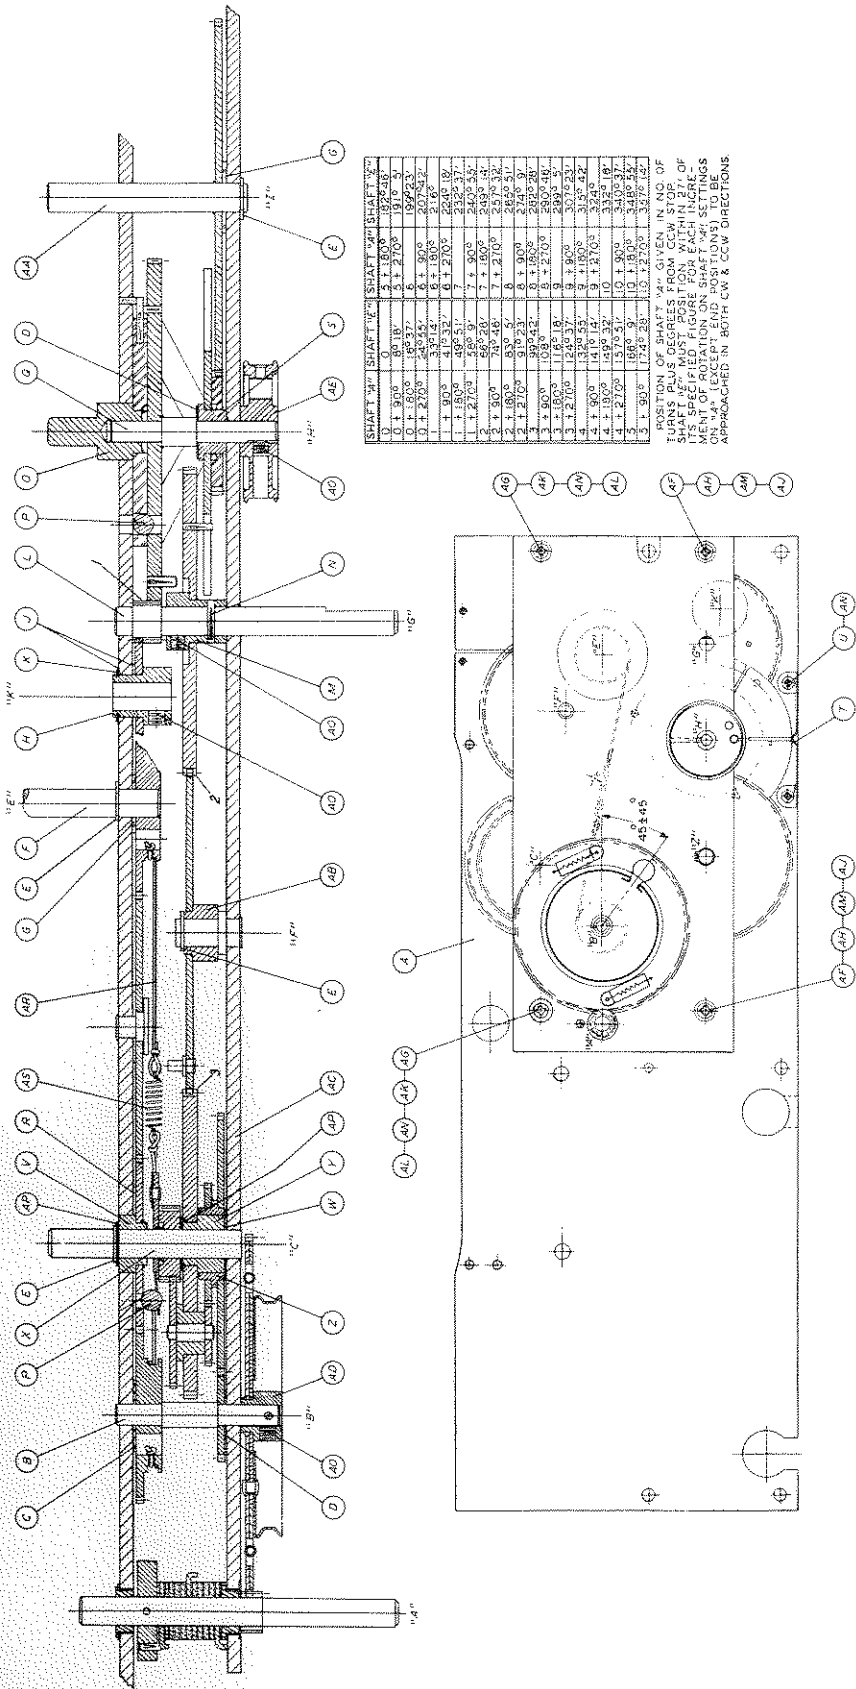

Figure 5-4. 51J-3 Dial and Bandswitch Gear Box
(1) Turn shaft G (BAND CHANGE) clockwise to the stop below band 1. Turn shaft A counterclockwise to the stop.
(2) Scribe a mark across the 85-tooth spider gear that carries the planetary gears, and across the 90-tooth stop-pin gear, using the top of the front gear panel as a guide.
(3) Scribe a radial mark, precisely under the Geneva wheel detent, on the 144-tooth gear that has two stop pins attached.
(4) Using the circumference of the Geneva wheel as a guide, scribe a mark on the 85-tooth gear that drives the Geneva wheel.
(5) Scribe a mark through the edge of the small dial cord pulley and the front gear panel.
(6) Remove pin from hub of large dial cord pulley.
(7) Remove large dial cord pulley and gear.
(8) Remove small dial cord pulley.
(9) Remove retaining ring from shaft I (shown as shaft Z in the front view of gear plate in figure 5-4).
(10) Using a pair of right angle TRUARC pliers or two bent (right angle) scribes, remove retaining ring from shaft F.
(11) Measure and record the length of loading spring using a pair of dividers.
(1) Shaft G should now be against the clockwise stop, and should detent when turned counterclockwise approximately 45° . The ball on shaft C will now detent shaft G every 180° .
(2) When shaft G is turned counterclockwise $7\frac{1}{2}$ revolutions, or 15 detent positions from the first detent position, the pin in the 144-tooth gear on shaft H (figure 5-4), and the radial pin on the overtravel disc rotate clockwise until the radial pin just touches or is about to touch the pin in the rear gear panel. Further rotation of shaft G causes the pin in the gear to leave the radial pin that was stopped by the pin in the rear gear panel. Thus the overtravel coupler output shaft, which drives r-f switches S101 through S107 (figure 4-2), rotates 300° for the first 16 detent positions of shaft G and remains at that setting for further counterclockwise rotation of shaft G.
(3) Shaft G should rotate 14 more detent positions or 7 revolutions from the sixteenth detent position, and should hit the counterclockwise stop approximately 45° past the thirtieth detent position. If the stop pins intersect before this, adjust them by changing phase relations of the gears at points 1, 2, and 3, shown in figure 5-4. Before deciding to change the relative positions of these gears, double check the conditions in steps (1), (2) and (3). If instructions in paragraphs 5.6.2. and 5.6.3. were followed precisely, operation of the BAND CHANGE gear train should meet the conditions set forth in these steps.
(4) The Geneva wheel should turn one notch when shaft G turns counterclockwise from an even-numbered to an odd-numbered detent position. (Count the first detent position from the clockwise stop as number 1.) Thus shaft I should rotate through 14 positions, or 280° , for 30 detent positions, or $14\frac{1}{2}$ turns, of shaft G. The initial position of shaft I should correspond to detent positions 1 and 2 of shaft G, the second shaft I position should correspond to detent positions 3 and 4 of shaft G, and so on through to the thirtieth detent position of shaft G.
(r) Replace large dial cord pulley and gear assembly as follows: Turn shaft A to counterclockwise stop. Make sure that the 52-tooth gear on shaft E and the 48-tooth detent gear on shaft C are still set at their respective scribe marks. Place pulley and gear assembly far enough on shaft B to engage the rear section of the split gear with the 15-tooth gear on shaft A. Be sure that groove-pin holes on shaft and hub are lined up and that the pulley slot is within 45° of the position shown in figure 5-4. Rotate front section of split gear so that springs stretch to $3/4$ inches. Engage front section with 15-tooth gear on shaft A. Replace groove pin and tighten set screw.